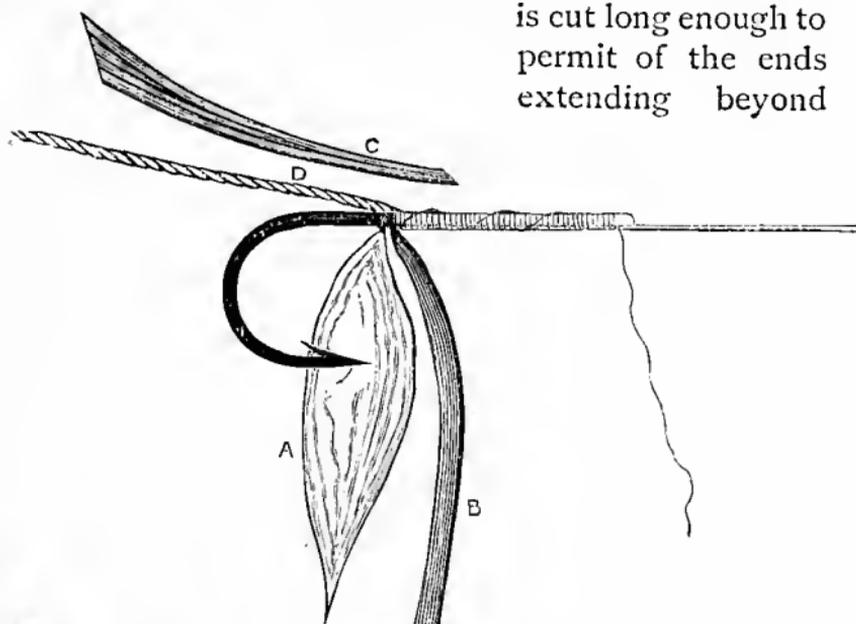

Fig. 230.—Make-up of Bass-fly.
*Materials.*—Cotton wool, white floss silk, black cord silk, red ibis feather, turkey tail feather (brown), hook 210 sprout. Fig. 230 exhibits the make-up. A shows the cotton-wool, which is attached for winding; B, the floss silk; C, the tail of red ibis; D, the silk cord. Fig. 231 shows these materials worked into shape.